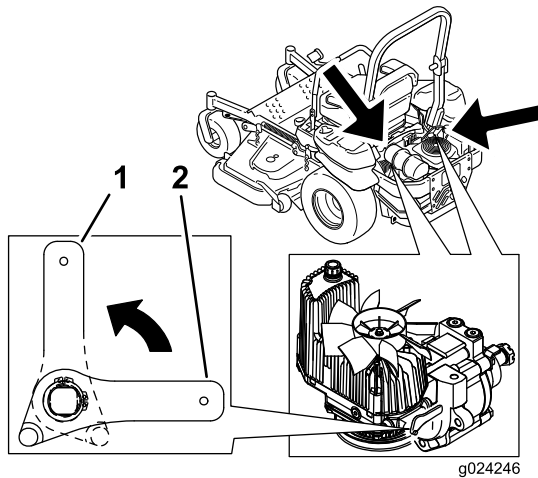

Figure 39
3. Rotate the release-valve levers vertically to push the machine (Figure 39).
5. Rotate the release valve levers horizontally to run the machine (Figure 39).